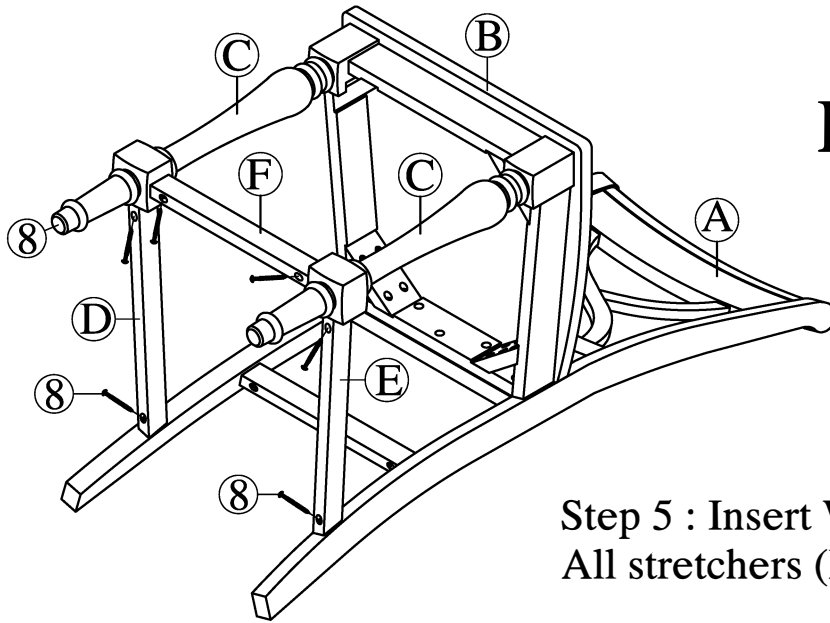

Fig.5
Step 5 : Insert Wood Screw (8) to fasten All stretchers (D, E, F) as shown on Fig. 5.